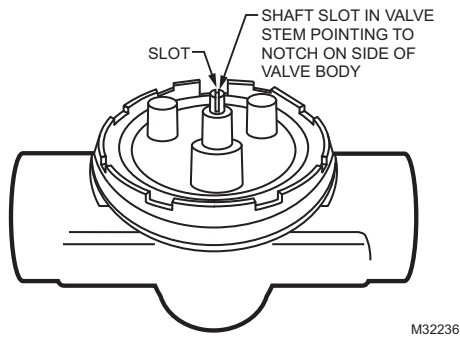

Fig. 3. Slot position.
2. Place the valve on the pipe. **Rotate the valve stem** so that the shaft slot points to the notch in the side of the body (90° to flow direction). See Fig. 3. This protects the plug inside the valve by removing it from the seat.
1. Rotate valve stem so that shaft slot points to notch on side of valve body, per Fig. 3.